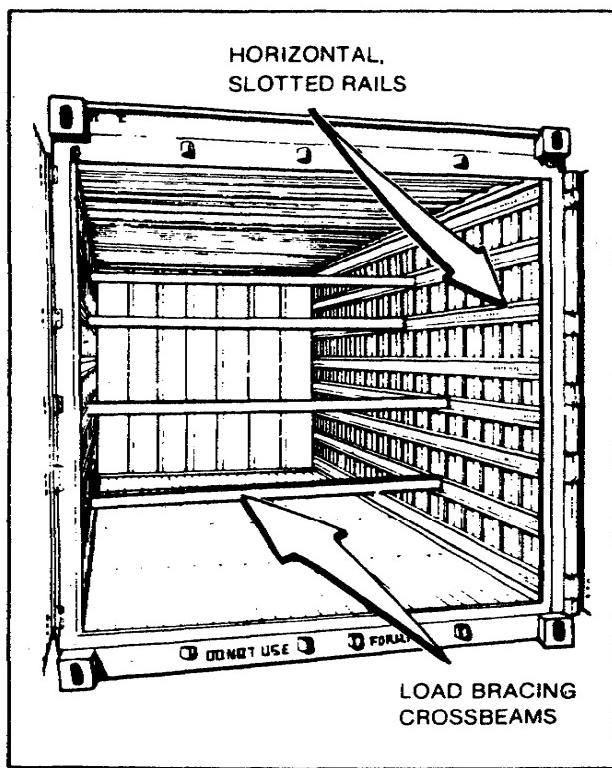

Figure 2-13. Crossbeams in Place.
2.10. The cargo restraint system consists of eight horizontal slotted rails, intermittently spaced and welded on each side wall, and 25 independent load bracing crossbeams that interlock into the side rail slots. They are shown in figure 2-13, here in position to illustrate their use.